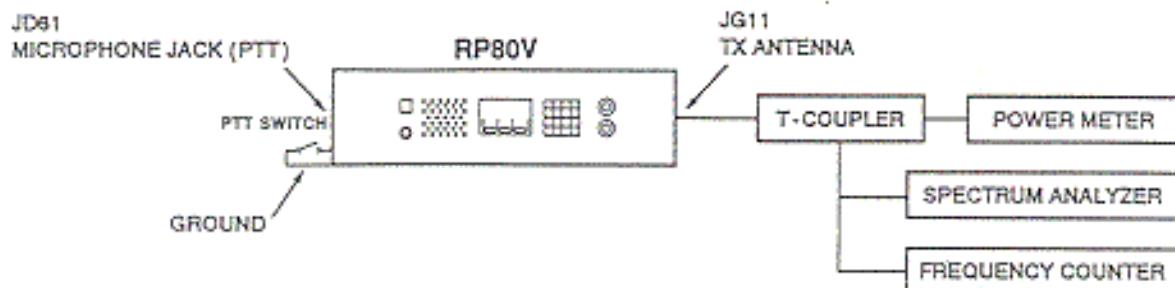

Figure 6-2 TX unit alignment
- Connect the measuring instruments as shown in Figure 6-2.